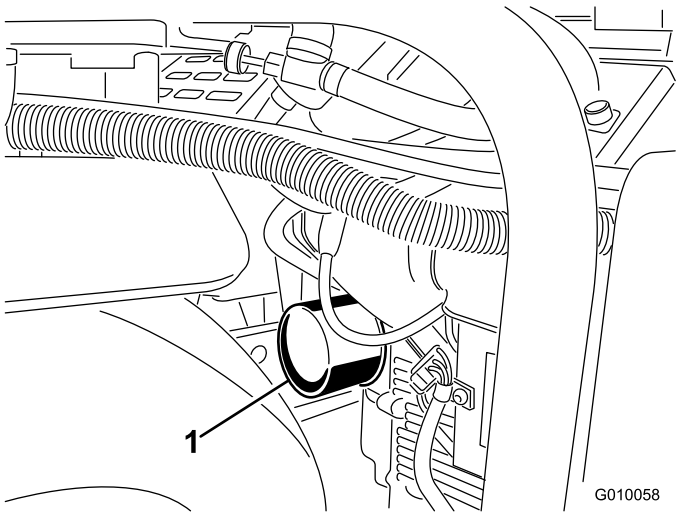
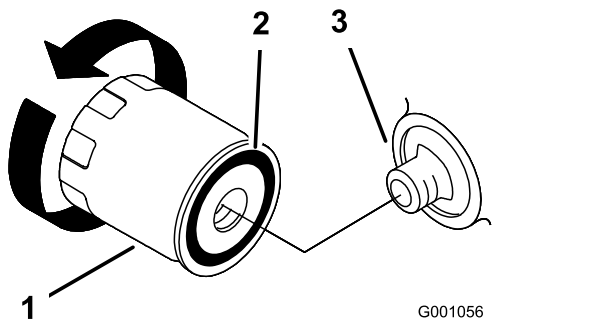

Figure 44
Figure 45
- Place a shallow pan or rag under the filter to catch oil (Figure 44).
- Remove the old filter (Figure 44 and Figure 45) and wipe the surface of the filter adapter gasket.